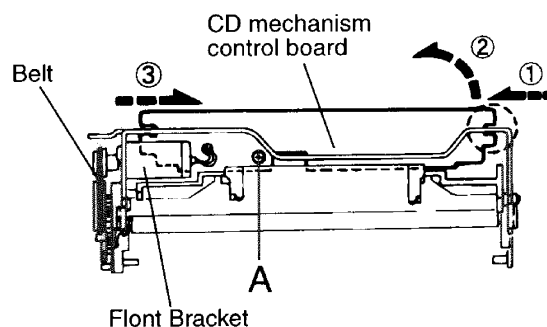

Fig.11
4. Remove the one screw A retaining the CD mechanism control P.C.board (See Fig. 11).
5. After disengaging the engagement between the notch section c and frame, remove the CD mechanism Control P.C .board successively from ① through to ③ in the arrow direction as shown in Fig. 11.